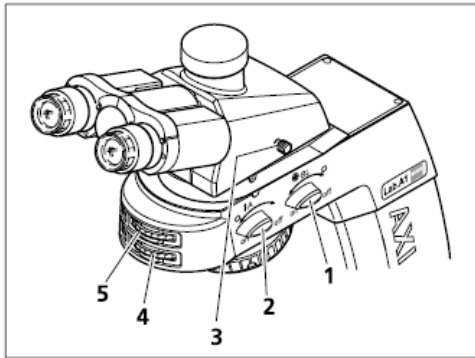

Fig. 4-10 Axio Lab.A1 for transmitted light conoscopy
- Swivel the analyzer into the beam path (**on** position) with rotary knob **A** (Fig. 4-10/2). The direction of oscillation can be changed using the setting wheel (Fig. 4-10/4) of the analyzer.
- Switch on Bertrand lens **BL** (Fig. 4-10/1) (Position **on**). The axial figure will appear in the field of view.
- Bring the axial figure into focus with setting wheel (Fig. 4-10/5).